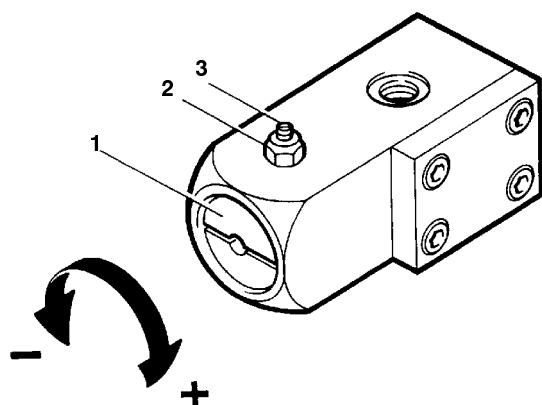

Fig. 18 Pressure maintaining valve
The pressure maintaining valve (Fig. 18) is adjusted at the factory to the required pressure and normally does not require regular maintenance or readjustment. In case of readjustment becoming necessary, loosen jam nut (2) and set screw (3). Adjust screw (1) to the required pressure using a suitable screw-driver.